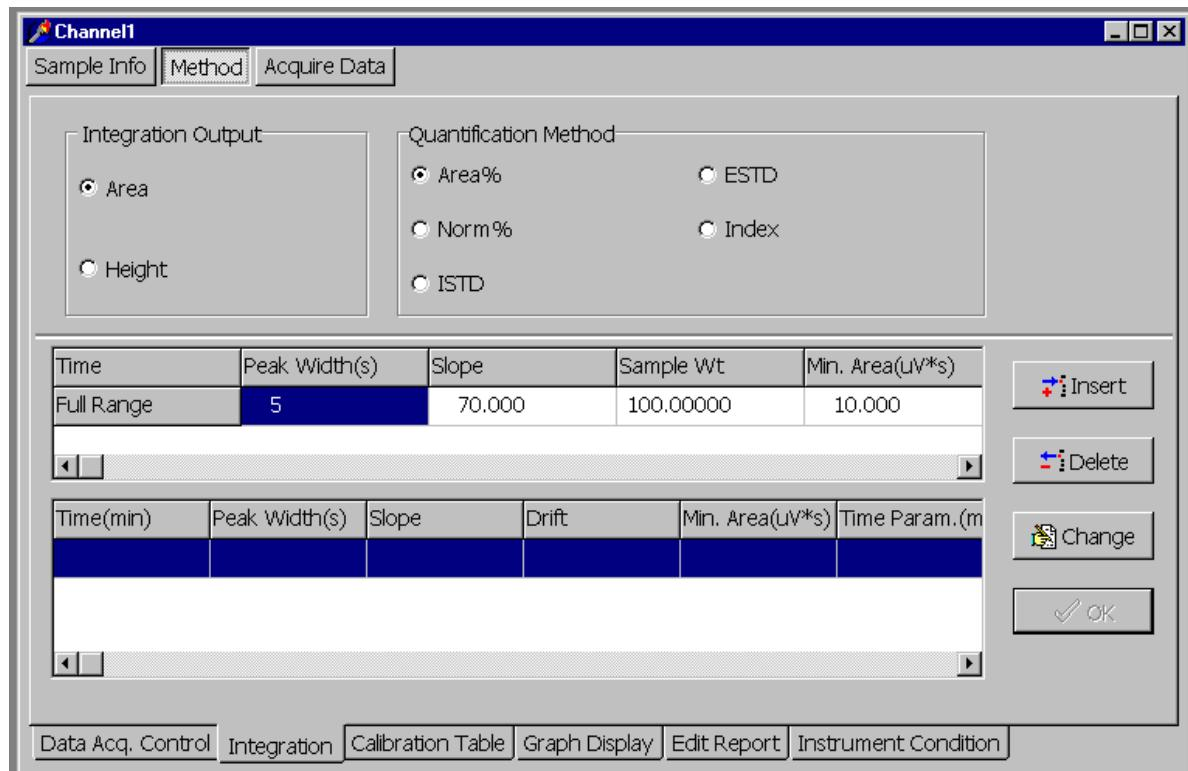

Figure C-220. Dialog box for the Integration Process Control
3. The Dialog box for controlling the integration process appears as shown in Figure C-220.